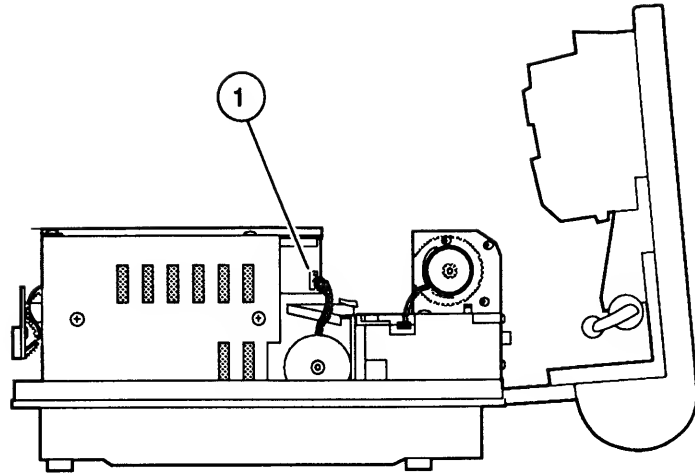

FIGURE 34
5. Disconnect the main motor cable (Figure 34, #1) from DC power supply connector J3.
4. Connect the main motor cable to DC power supply connector J3. Refer to Figure 34.